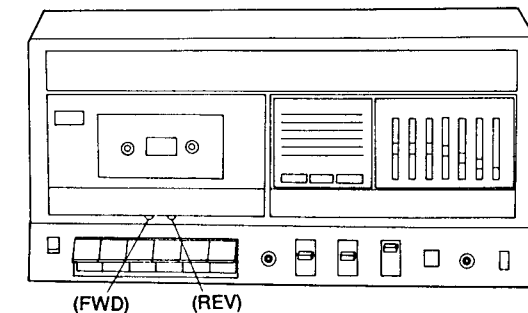

Fig. 1
- To adjustment the azimuth, insert a test tape and play it back in both the forward and reverse direction. During playback in each direction, adjust the respective location indicated by the arrows in the Fig. 1 using a small regular screwdriver.